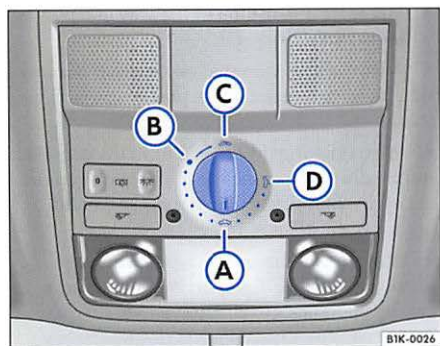

Fig. 22 Section of roof: rotary control for power roof
- Turn the rotary control to position ⇒fig. 22 (B). The roof opens to the comfort position where wind noise is reduced.
- To open the roof further, turn the switch to position (C) and hold the switch in this position until the roof opens to the desired position.
If the power roof has been opened again by the pinch protection, it can be closed only by pressing back the rotary control in position ⇒ page 42, fig. 22  until the power roof has closed fully. **Please note that the roof will now close without pinch protection.**